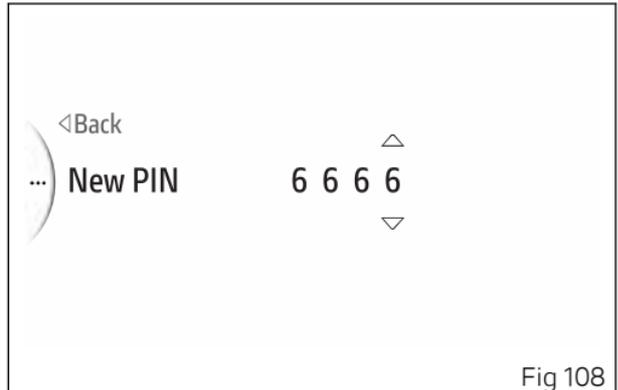

Fig 108
- The 2 arrows above and below the digit indicate that the number can be changed from 0 to 9 using buttons (1) and (2).
- Press ENTER (3) to confirm and move on to the following digit.
- Repeat the procedure until entering all 4 digits (Fig 108).
- Press ENTER (3) to confirm the digit and move on to the following one.